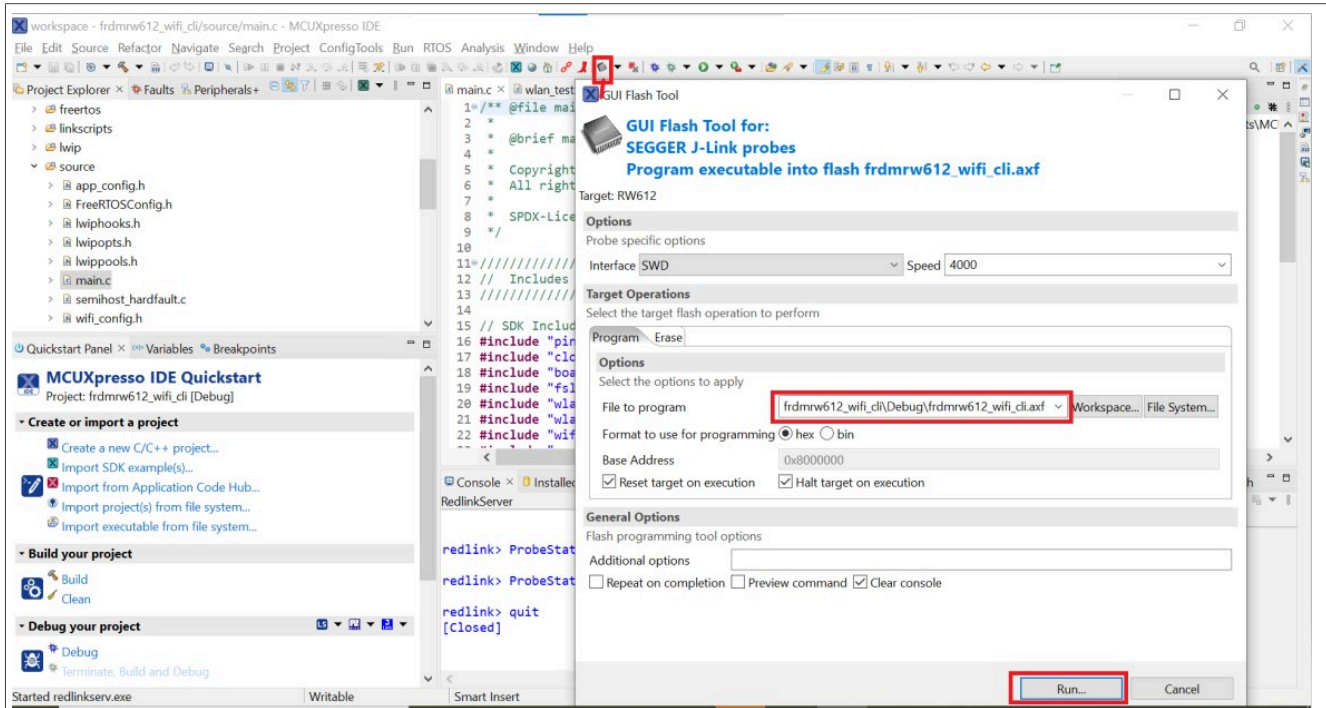

Figure 11. Using the GUI Flash tool for the pre-built binary or locally compiled binary
- To flash the required binaries, select the *GUI Flash Tool* icon in the toolbar (Figure 11)